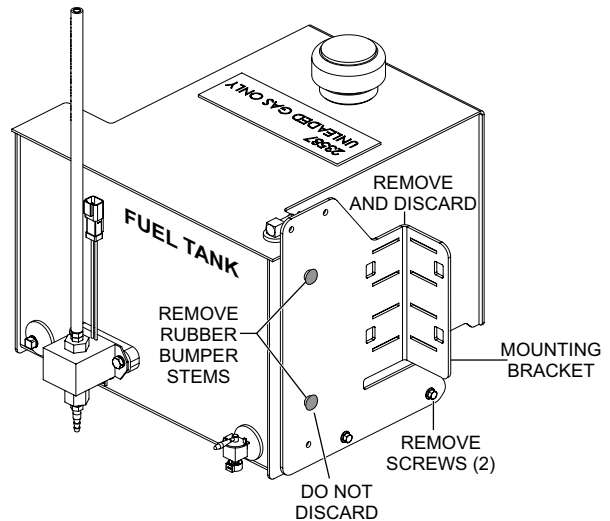
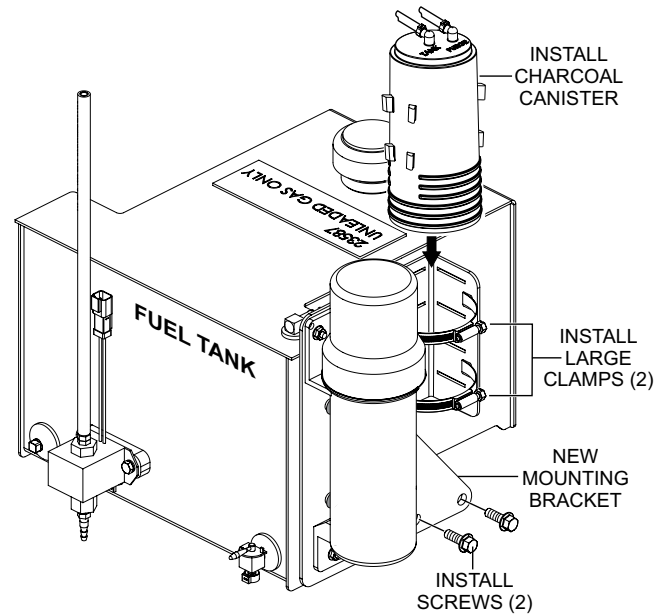

Figure 4. Mounting Bracket Removal
Figure 7. Installing Mounting Bracket/Charcoal Canister
1. Remove the two screws (Figure 4) that secure the mounting bracket to the fuel tank. Screws can be located at bottom of mounting bracket.
- Place new mounting bracket (Figure 7) up against the fuel tank, and secure at bottom of fuel tank using the two mounting screws that were removed earlier (Figure 4).
- Secure charcoal canister (Figure 7) to mounting bracket using the existing large worm clamps. Tighten each clamp securely.